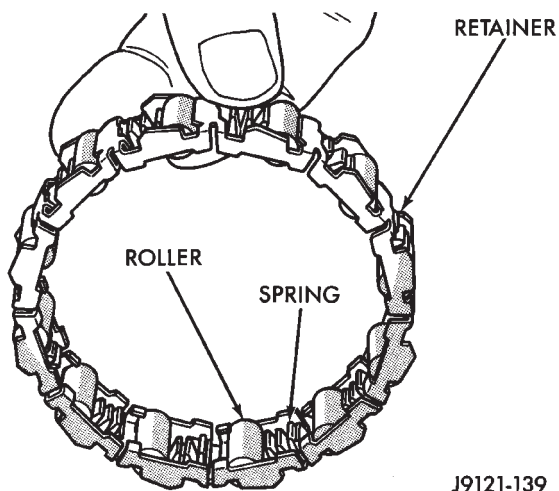

Fig. 112 Overrunning Clutch Rollers, Springs, Retainer
(1) Assemble clutch rollers and springs in retainer if necessary (Fig. 112).